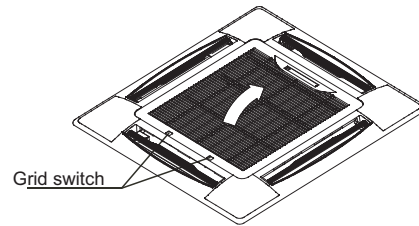

Fig.4-12
1) Slide two grill switches toward the middle at the same time, and then pull them up. (Refer to Fig.4-12)